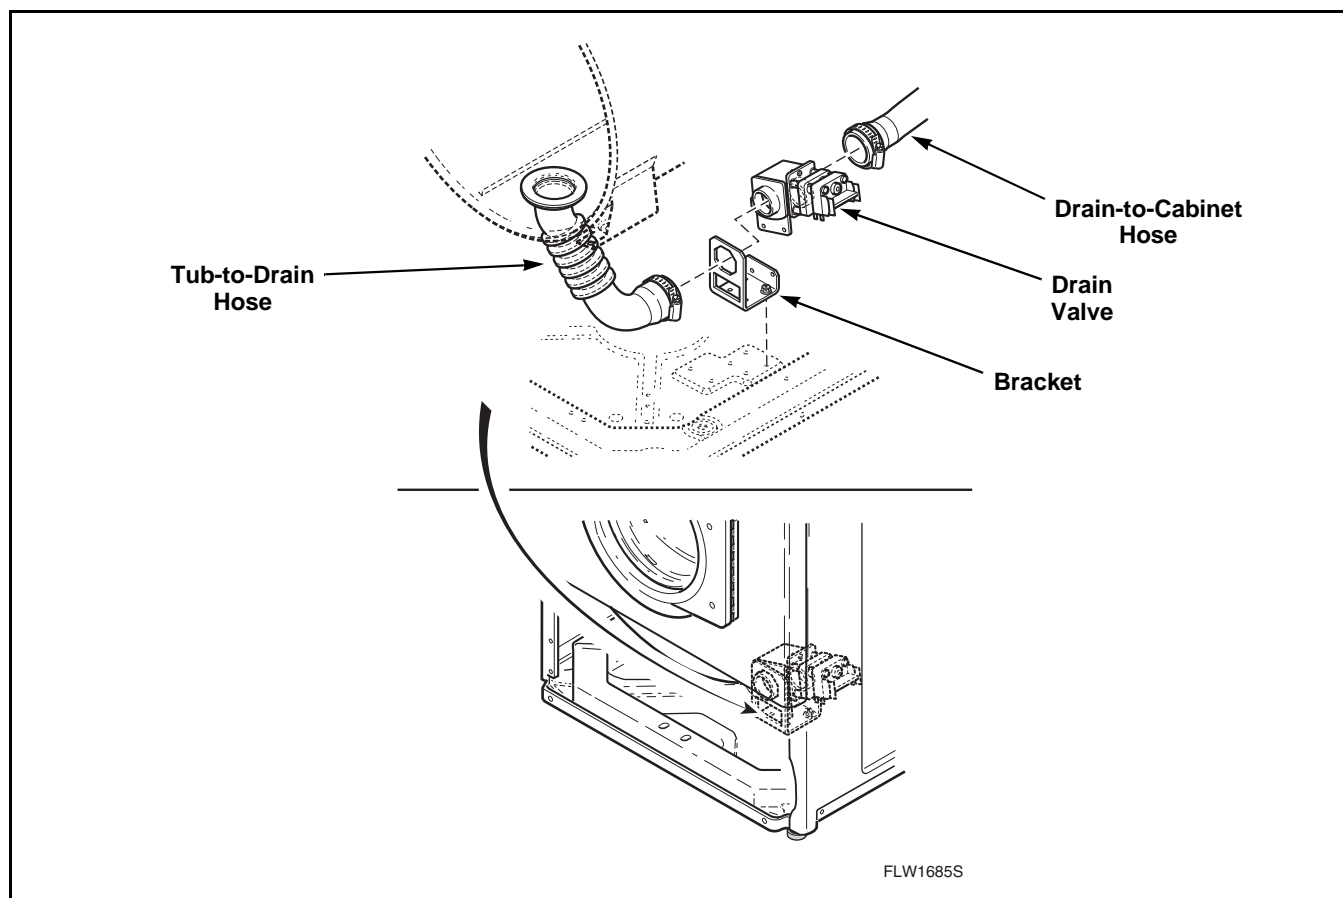

Figure 44
- Loosen hose clamps and remove tub-to-drain and drain-to-cabinet hoses connected to drain valve. Refer to *Figure 44*.
- Remove screws holding valve to bracket and remove valve through front of washer. Refer to *Figure 44*.